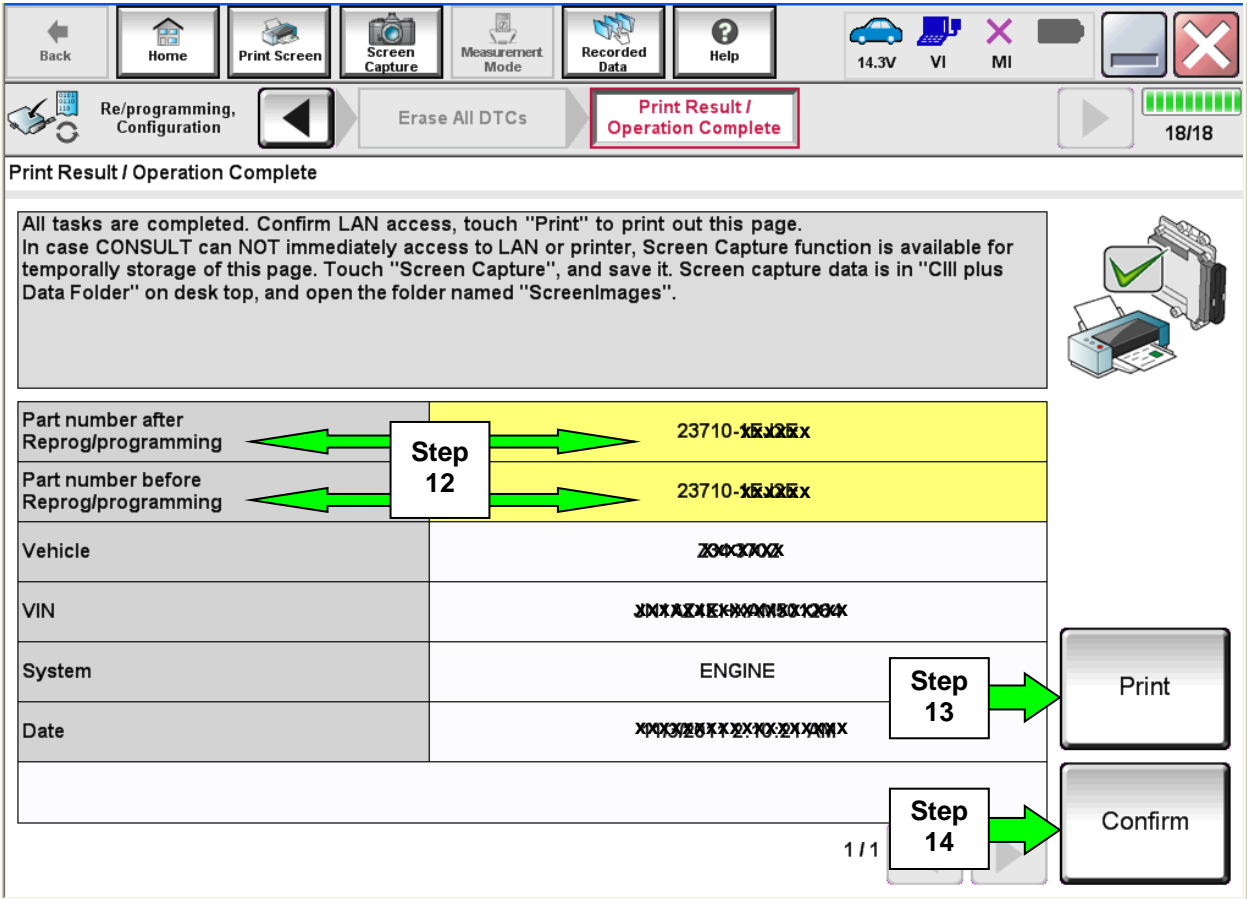

Figure 7
- 11. When the entire reprogramming process is complete, the screen in Figure 7 will display.
- 13. Print a copy of this screen (Figure 7) and attach it to the repair order for warranty documentation.